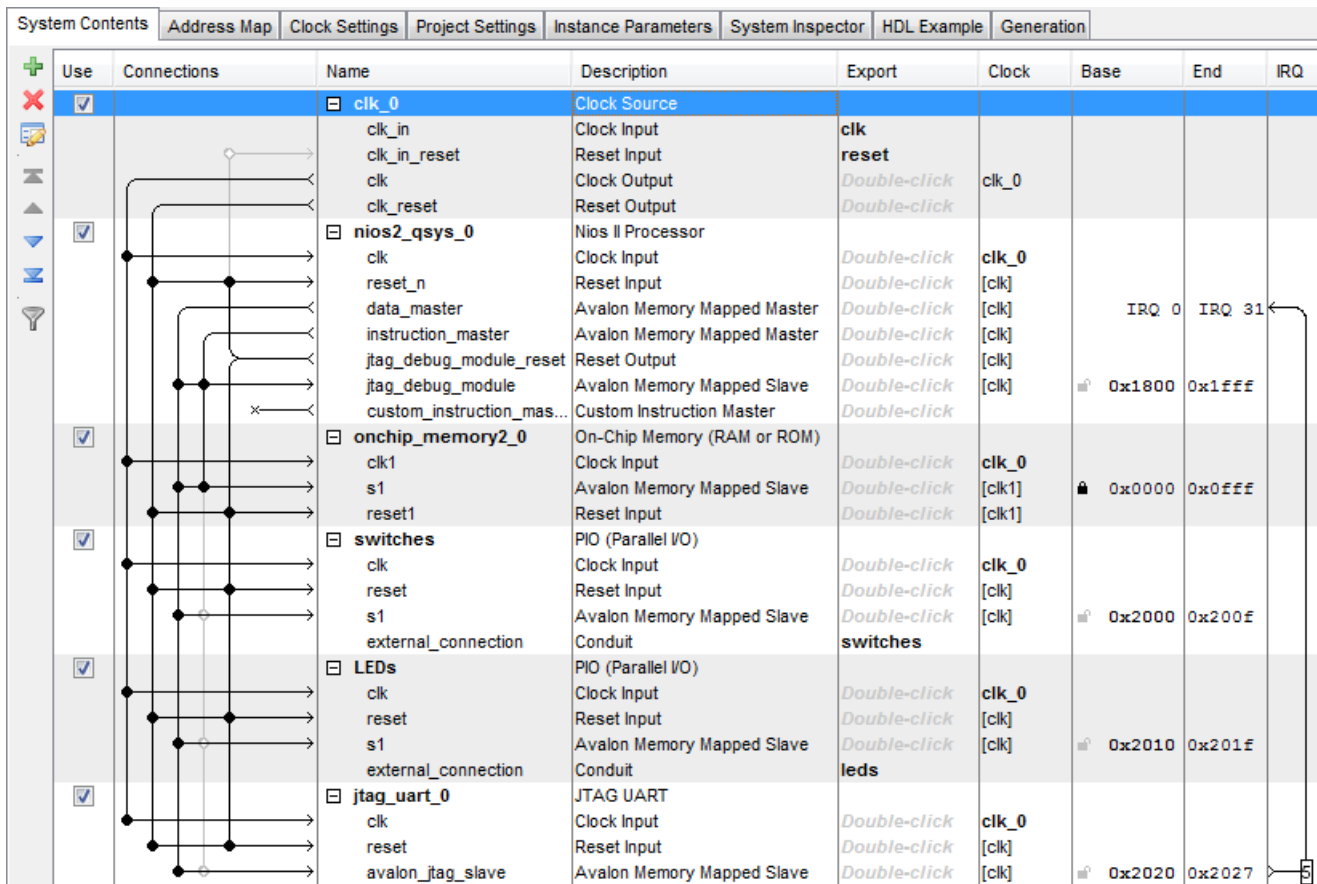

Figure 19. The complete system.
14. So far, we have specified all connections inside our *nios_system* circuit. It is also necessary to specify connections to external components, which are switches and LEDs in our case. To accomplish this, double click on Double-click (in the Export column of the System Contents tab) for `external_connection` of the switches PIO, and type the name *switches*. Similarly, establish the external connection for the lights, called *leds*. This completes the specification of our *nios_system*, which is depicted in Figure 19.